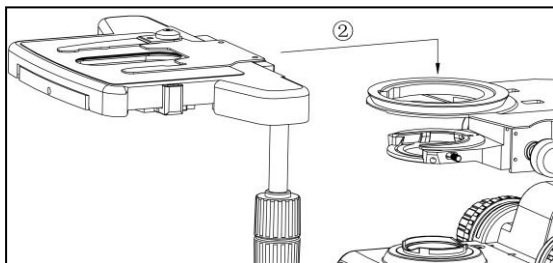
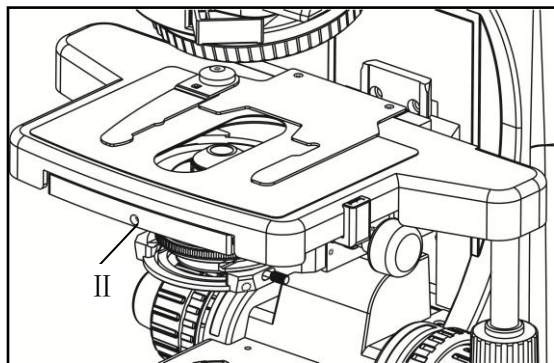

Fig 3
Fig 4
Stage(fig 3, fig 4)
- ◇ After placing the object stage steady, using the hex wrench screw the bolt, which shown as I in the figure 4, and the object stage will not waggle.